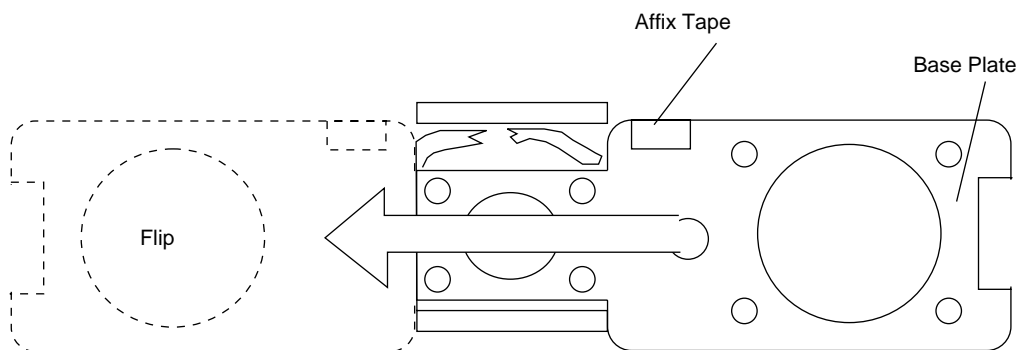

Figure B-6. Motor Mount Plate Flipping
NOTE: Mark the base plate (paint or tape) on the top to distinguish the top from the bottom (see Figure B-6).
11. Rotate the base plate to the other side of the motor (see Figure B-6).